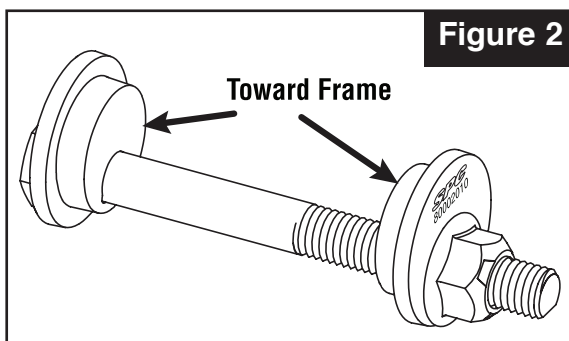

Figure 2
5. Reinstall camber and toe control arms using SPC bolts and cams. Small diameter of cams should be installed toward frame of vehicle (**Figure 2**). Loosely install nut.